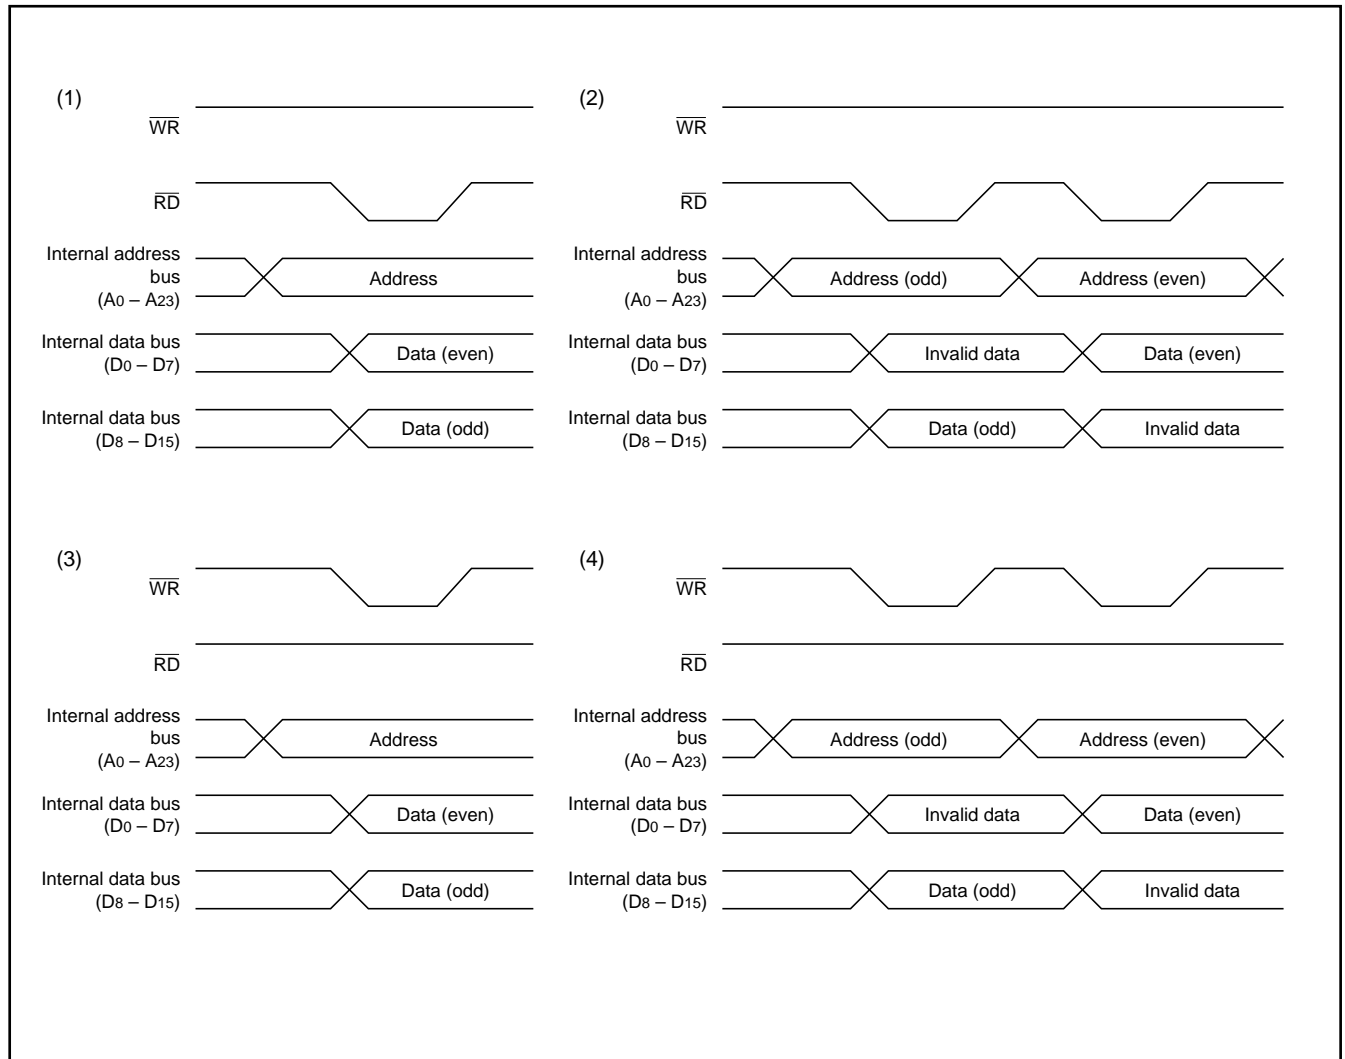

Fig. 5 Basic waveforms of bus interface unit
Figure 5 shows basic waveforms of the bus interface unit. The \overline{RD} signal becomes "L" when the bus interface unit reads an instruction code or data from memory. The \overline{WR} signal becomes "L" when the bus interface unit writes data to memory.
Waveforms (1) and (3) in Figure 5 are used to access a single byte or two bytes simultaneously. To read or write two bytes simultaneously, the first address accessed must be even. Furthermore, when accessing an external memory area in memory expansion mode or microprocessor mode, set the bus width select input pin